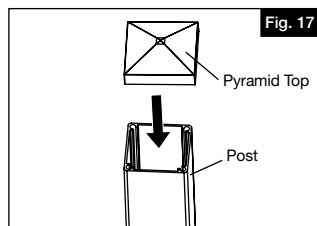

Fig. 17
- c. Install pyramid post top onto each post (Fig.17).